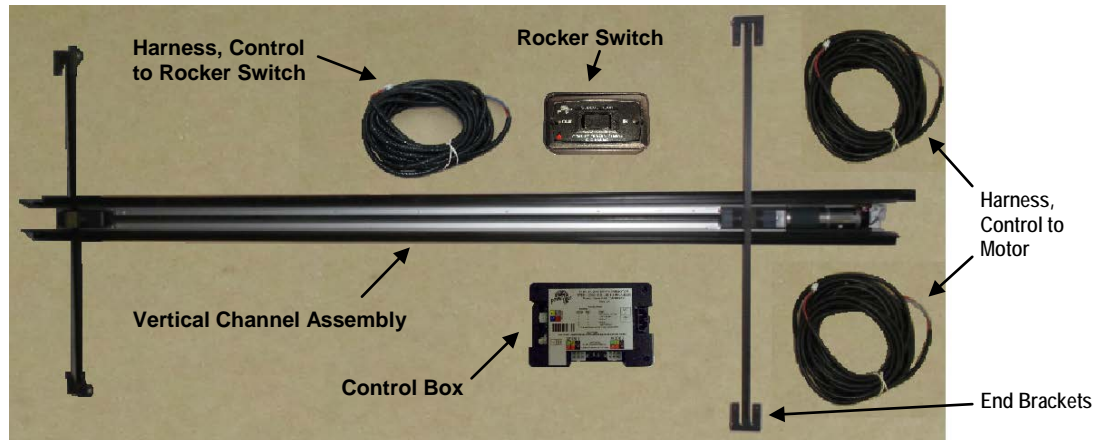

Figure 1
1. Mount the **CONTROL BOX** (FIGURE 1, page 1) in a clean and dry, weather tight location that will keep it from being damaged, but is easily accessible for service. **The control is not waterproof.**